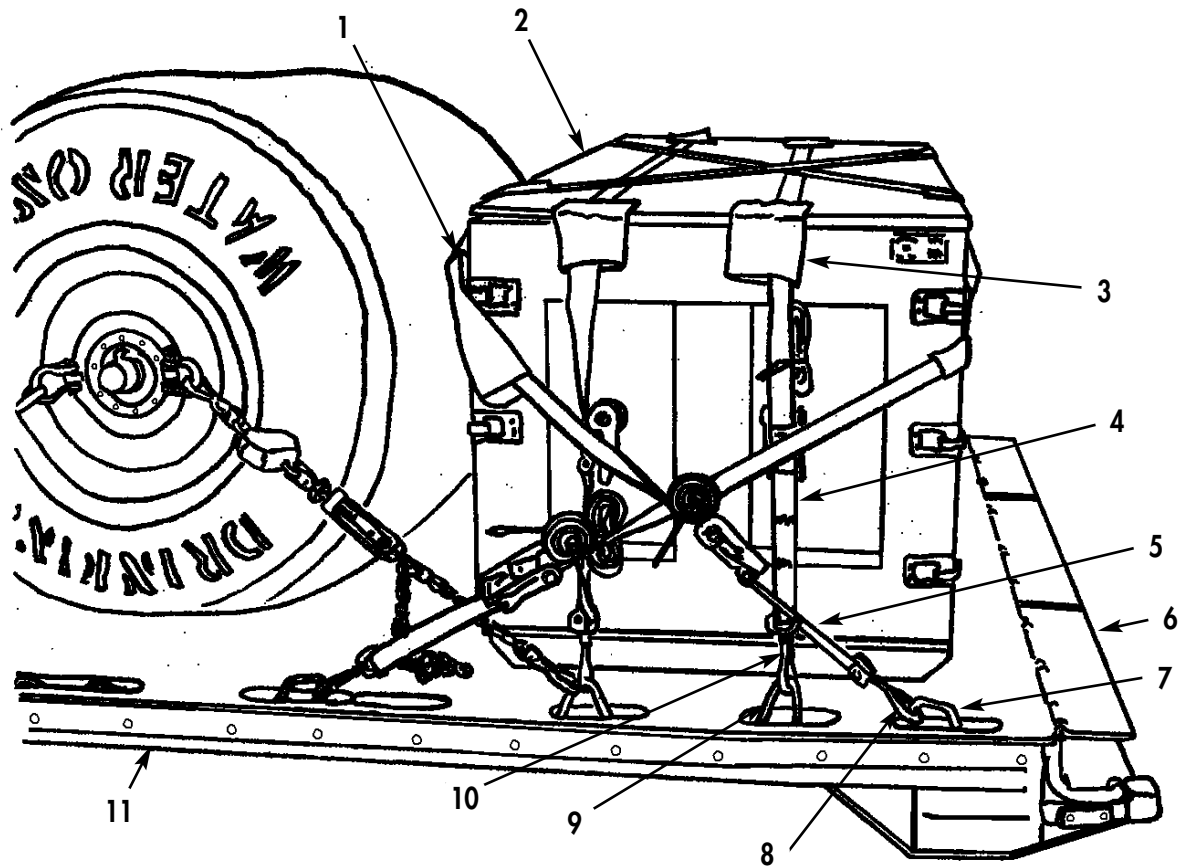

Figure 17. Tiedown of Shipping Crate.
- a. Ensure crate (Figure 17, Item 2) is properly closed and latched. Refer to WP 0018.
- b. Using suitable lifting device or forklift, position shipping crate (Figure 17, Item 1) on CROP (Figure 17, Item 11) so that it is 3 in. (76 mm) from rear flaps (Figure 17, Item 6) and within 2 in. (51 mm) of platform centerline.
- c. Position two protective sleeves (Figure 17, Item 3) on each of two tiedown straps (Figure 17, Item 4), and position two tiedown straps (Figure 17, Item 4) over top of crate (Figure 17, Item 2).
- d. Connect hook ends (Figure 17, Item 10) of two straps (Figure 17, Item 4) to platform tiedown rings (Figure 17, Item 9) at both sides of CROP (Figure 17, Item 11), loosely tighten straps (Figure 17, Item 4), and position four protective sleeves (Figure 17, Item 3) on edges at top of crate (Figure 17, Item 2).
- e. Position four protective sleeves (Figure 17, Item 1) on each of two tiedown straps (Figure 17, Item 5), and position two tiedown straps (Figure 17, Item 5) by crisscrossing them over top of crate (Figure 17, Item 2).
- f. Connect hook ends (Figure 17, Item 8) of two straps (Figure 17, Item 5) to platform tiedown rings (Figure 17, Item 7) at both sides of CROP (Figure 17, Item 11), loosely tighten straps (Figure 17, Item 5), and position eight protective sleeves (Figure 17, Item 1) on edges at top and sides of crate (Figure 17, Item 2).
- g. Evenly tight two tiedown straps (Figure 17, Item 4) and (Figure 17, Item 5). Refer to WP 0004.